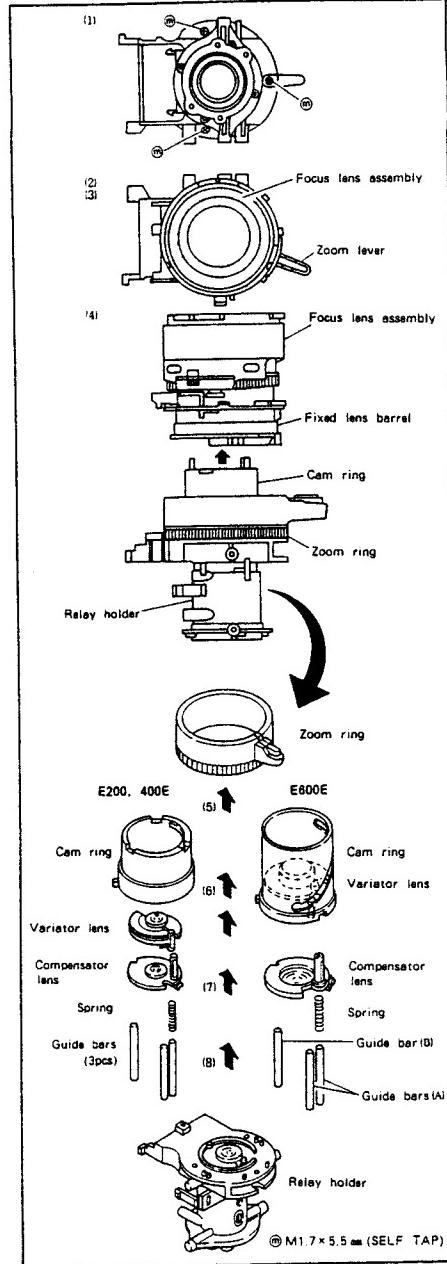

Fig. II-24
- (1) Remove three screw ⑨'s.
- (2) While steadyng the zoom section, turn the focus lens assembly up.
- (3) Set the zoom lever on the position as shown in the Fig. II-24.
- (4) While steadyng the zoom ring, dismount the focus lens assembly and the fixed lens barrel upward.
- (5) Remove the zoom ring.
- (6) Remove the cam ring.
- (7) Remove the variator and the compensator lenses.
- (8) Remove the spring and three guide bars. (E200, 400E only)
- (9) Remove the spring and guide bars (A) x 2, (B) x 1. (E600E only)